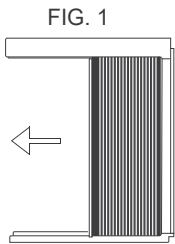

FIG. 1
A. Hold the side Panel in one hand and gently pull back the center to free the open end. See FIG. 1.